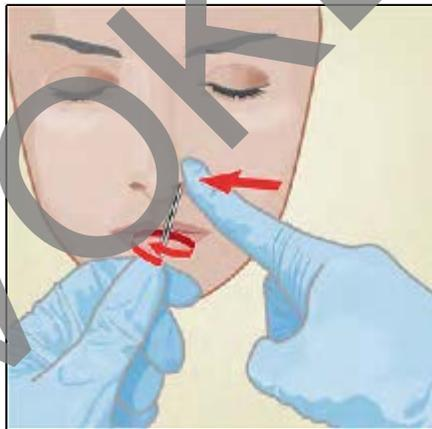

Figure 2. Anterior Nasal Swab Collection for First Nostril
1. Insert an anterior nasal swab 1 to 1.5 cm into a nostril. Rotate the swab against the inside of the nostril for 3 seconds while applying pressure with a finger to the outside of the nostril (see Figure 2).